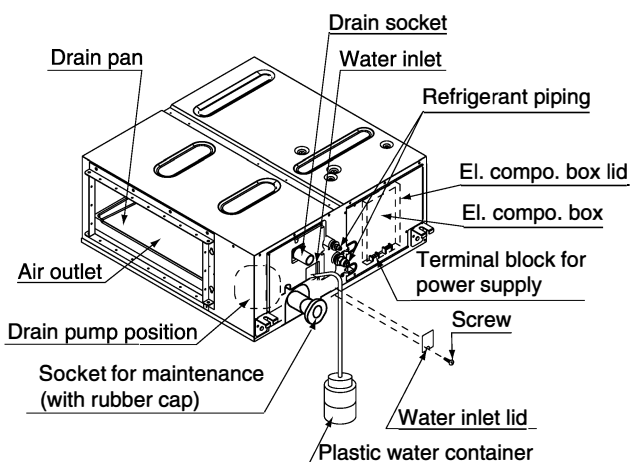

Fig. 15
- Gradually pour 1 litre of water from the inspection port at the bottom of the drain socket into the drain pan giving caution to avoid splashing water on the electric components such as drain pump and confirm drainage by operating the indoor unit under cooling mode according to 10. FIELD SETTING. (Refer to Fig. 15)
3. Gradually pour 1 litre of water from the air outlet on the left side of the drain socket into the drain pan giving caution to avoid splashing water on the electric components such as drain pump. (Refer to Fig. 15)